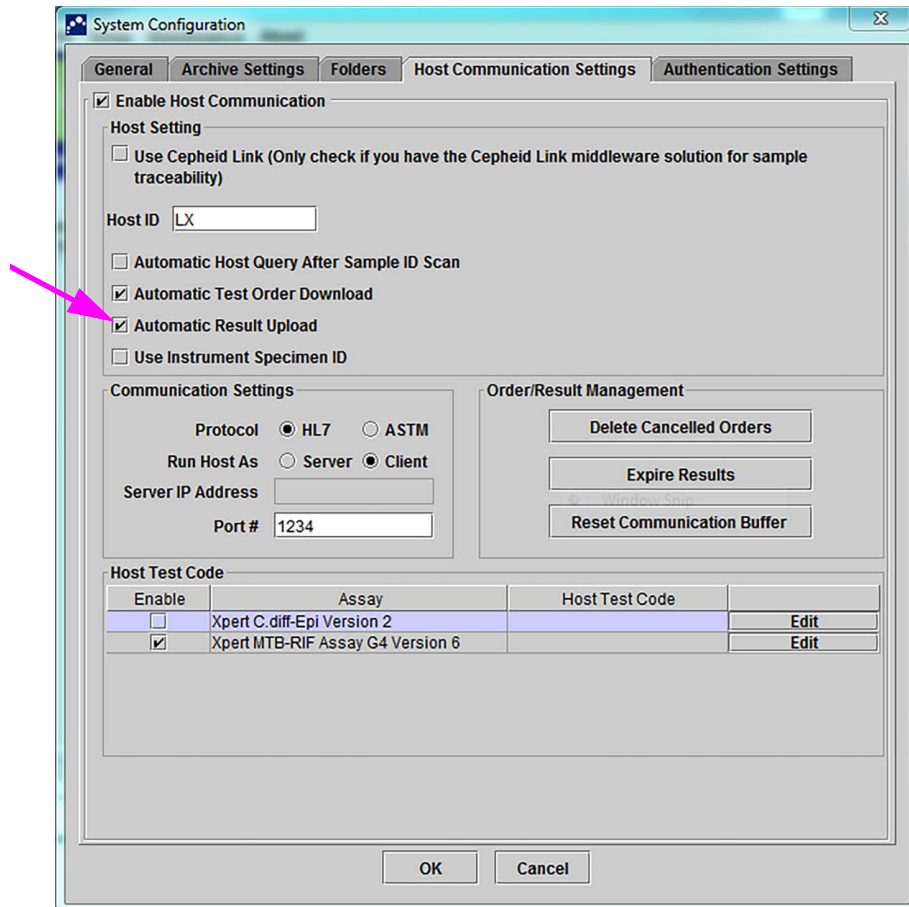

Figure 5-93. Automatic Result Upload
1. In the **Host Communication Settings** tab of the System Configuration dialog, click the **Automatic Result Upload** check box so the result will be uploaded as soon as the test is completed. See Figure 5-93.
1. In the **Host Communication Settings** tab of the System Configuration dialog, make sure **Automatic Result Upload** is deselected or disabled. See Figure 5-93.